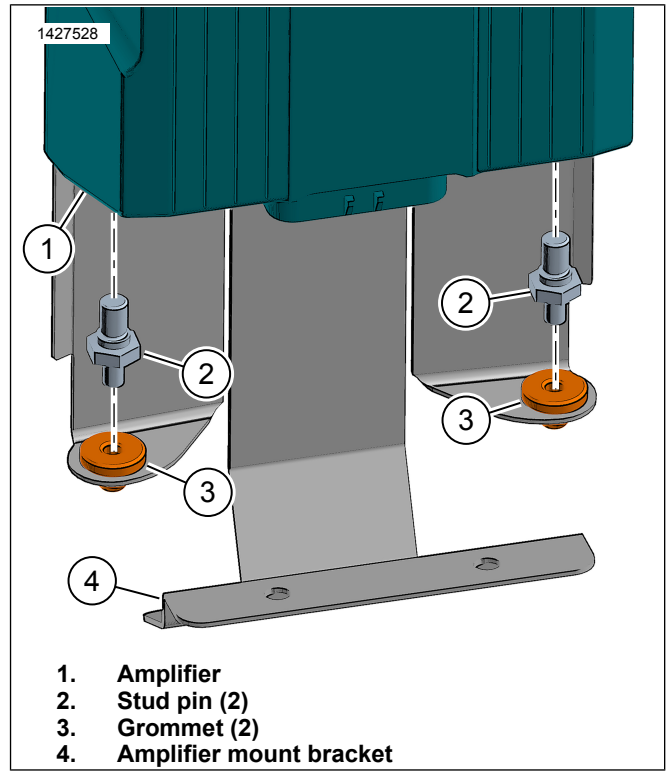

Figure 5. Amplifier Stud Pin
4. See Figure 5. Install grommet (3) into amplifier mount bracket (4).
5. Install stud pin (2) into amplifier (1). Tighten.